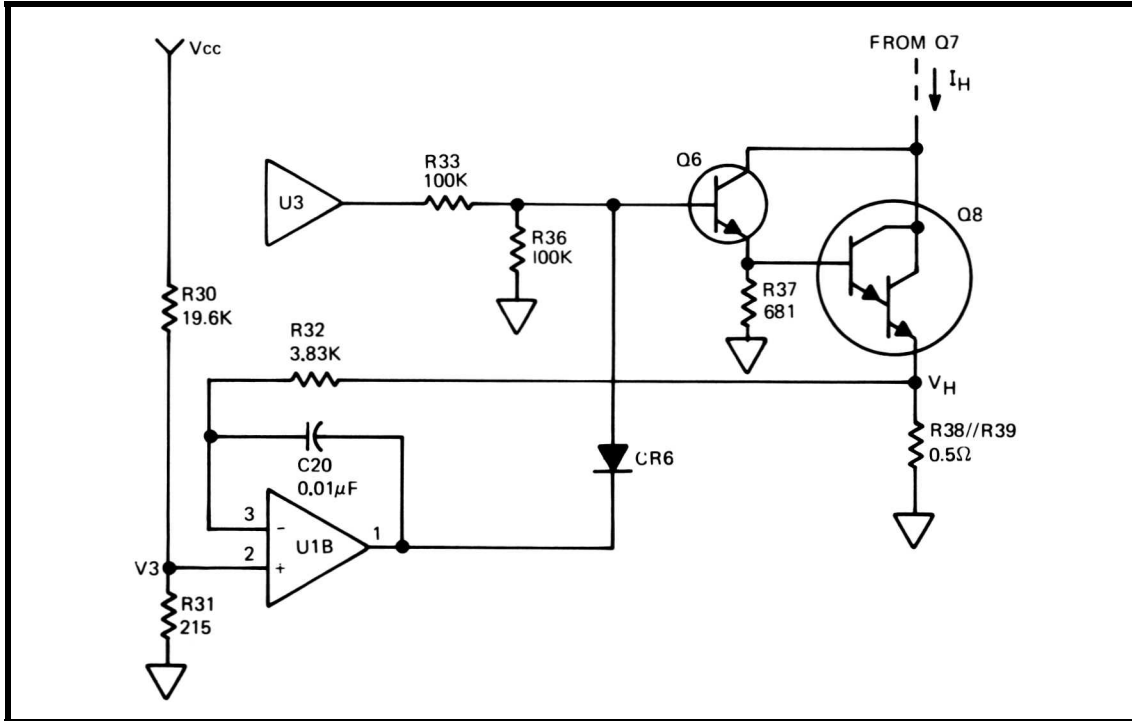

Figure 8-11. Turn-on Current Limit Circuit
- 8-38. Figure 8-11 shows the turn-on current limiting circuit. From an initial turn-on condition the thermistor senses the oven temperature to be low. To correct this situation the amplifier attempts to drive heavy amounts of current through Q7 and Q8 heaters. If allowed to continue this way, excessive current will flow; much more than is practical or necessary for warm-up. Amplifier U1 and associated components limit the current during warm-up to a practical value. When V_{cc} is applied to the oven, U1B forces V_H to equal V_3 by sinking the base current from Q6. By sensing V_{cc} , the circuit transforms the heater transistors into what appears to be a fixed heater resistance of 47Ω typical.